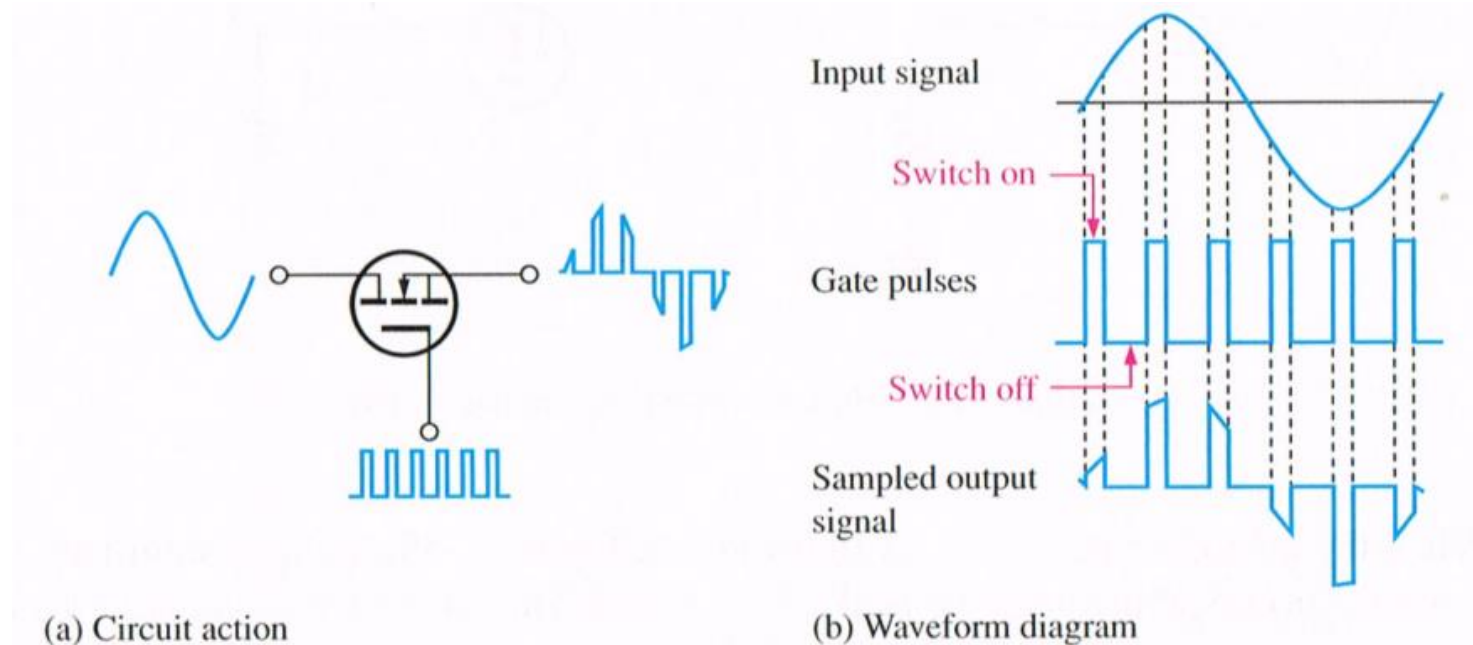

FIGURE 4-56 The analog switch operating as a sampling circuit.
- Basisprincipe is weergegeven in fig. 4-56